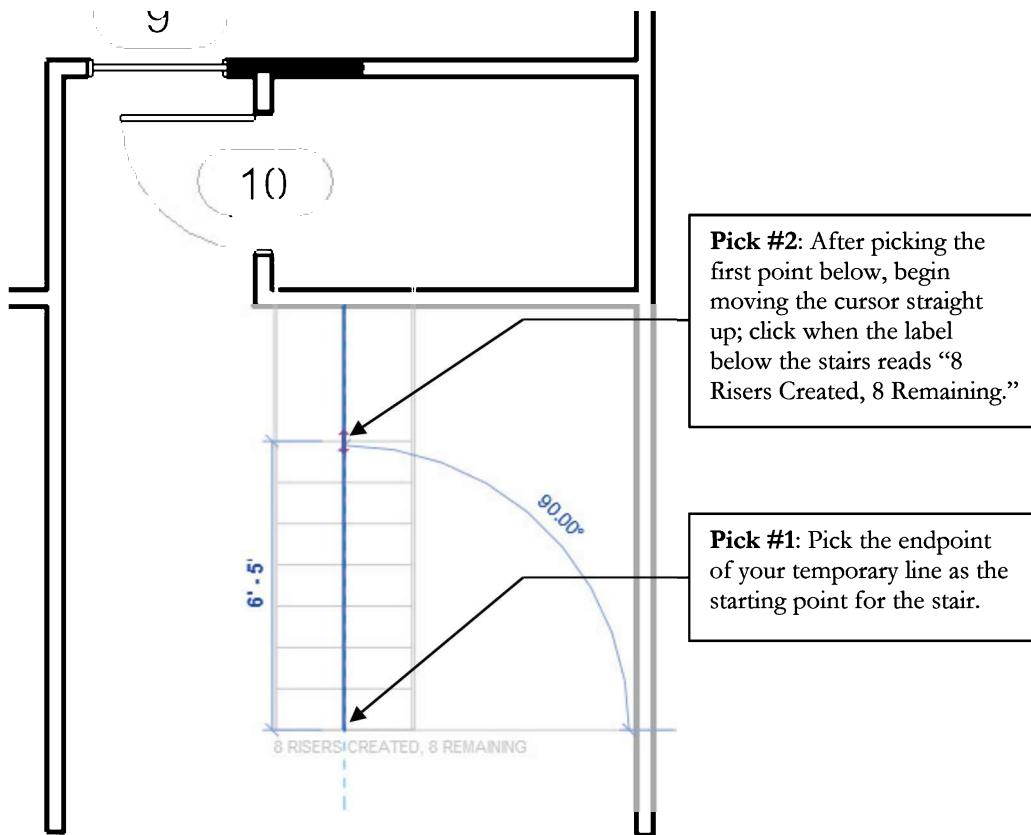

FIGURE 6-5.7 Beginning to sketch the stair
11. Click the endpoint of your temporary detail line as shown in **Figure 6-5.7**; you are selecting the start point for the first step. Make sure you are snapping to the line for accuracy; a tooltip will appear stating “endpoint” before you click.
12. Pick the remaining points as shown in Figures 6-5.7, 6-5.8 and 6-5.9.